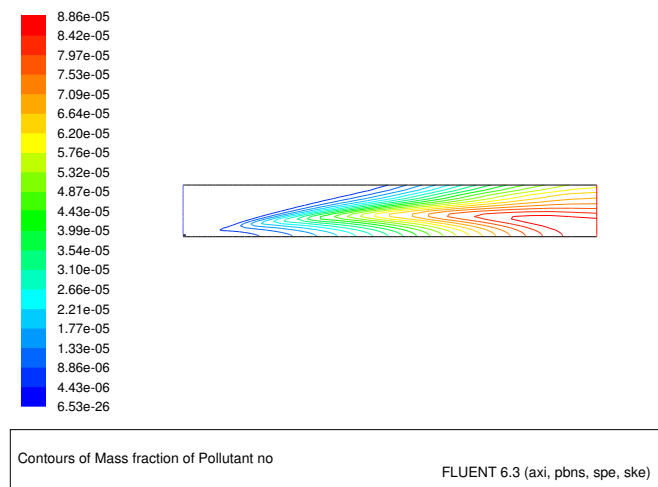

Figure 13.14: Contours of NO Mass Fraction: Prompt NO_x Formation
14. Review the prompt NO_x solution by viewing contours of NO mass fraction (Figure 13.14).
The contours closely resemble the mass fraction contours (Figure 13.14), as expected.